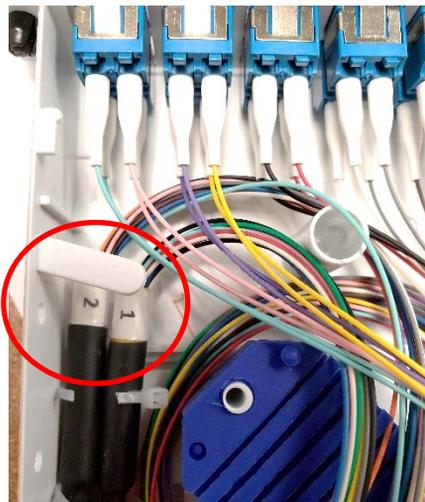

Figure 13
7.1 Remove lid of the 24 capacity FOX cassette and cut zip ties holding top panel position adapters (Unit 1) and bottom panel position adapters (Unit 2) for cassette terminations (see **Figure 13**). A 12 capacity FOX cassette will only have 1 subunit of 12 fibers.
7.2 Follow the table in **Figure 14** for organizing colored breakout kit bundle block patterns. 48 fibers require 2 24-capacity cassettes. Blue and green subunits from the termination kit will connect to positions 1-12 in the FOX cassettes which is unit 1 (Figure 13). Orange and Brown will be in positions 13-24 which connect to unit 2 in the cassette (Figure 13). Connector positions are also labeled on Cassette ears
48 Fiber 900 μm subunit organization. Circled is blue fiber of blue subunit which will be spliced to the Blue Termination Unit 1 (Figure 13) of FOX cassette.